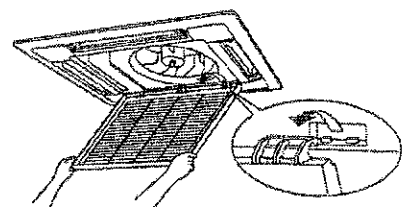

fig 3
3. Take out the suction grille: Open the suction grille 45 degrees and lift it upward, shown as fig .3